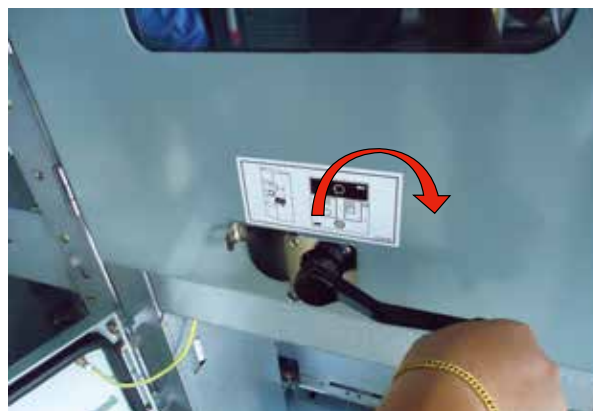

Figure 6.7: Rack in the breaker to service position
- d. Insert the racking handle of the truck into the rectangular handle hole of the screw mechanism of the truck through the operation hole under the door of the circuit breaker compartment. (See figure 6.7).